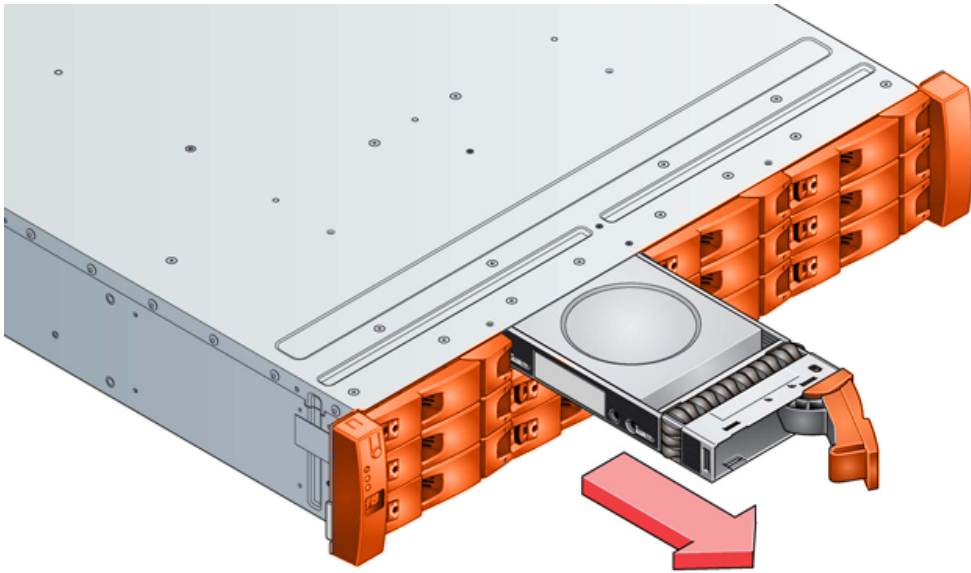

Figure 6-6 - Removing a Drive Carrier Module (2)
3. Gently withdraw the Drive Carrier Module approximately 1 inch (25mm), and wait 30 seconds (see Figure 6-6).